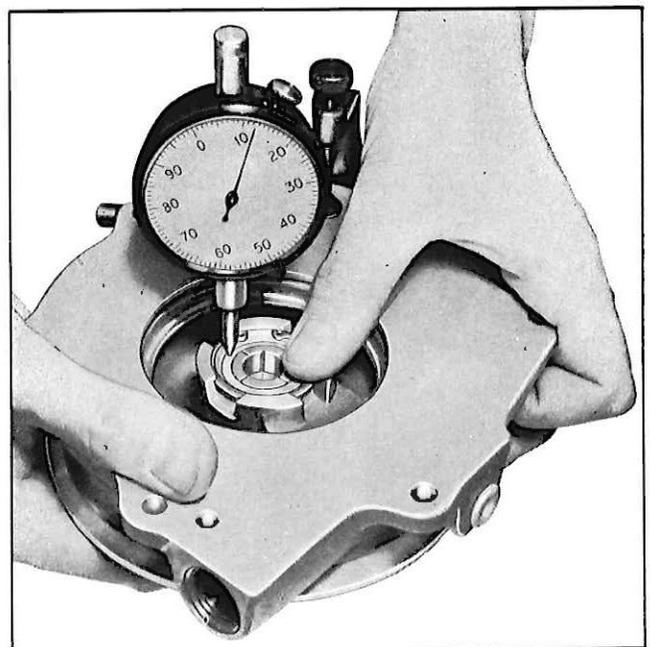

Fig. 28—Gauging Bearing-to-Housing End Play
- b. Position a dial indicator with point resting on the bearing (fig. 28) and set indicator needle at zero.